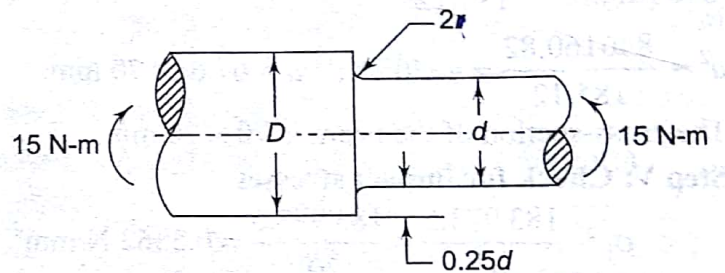

Fig. 5.59
- 5.2 **M** A round shaft made of a brittle material and subjected to a bending moment of 15 N-m is shown in Fig. 5.59. The stress concentration factor at the fillet is 1.5 and the ultimate tensile strength of the shaft material is 200 N/mm². Determine the diameter d , the magnitude of stress at the fillet and the factor of safety.